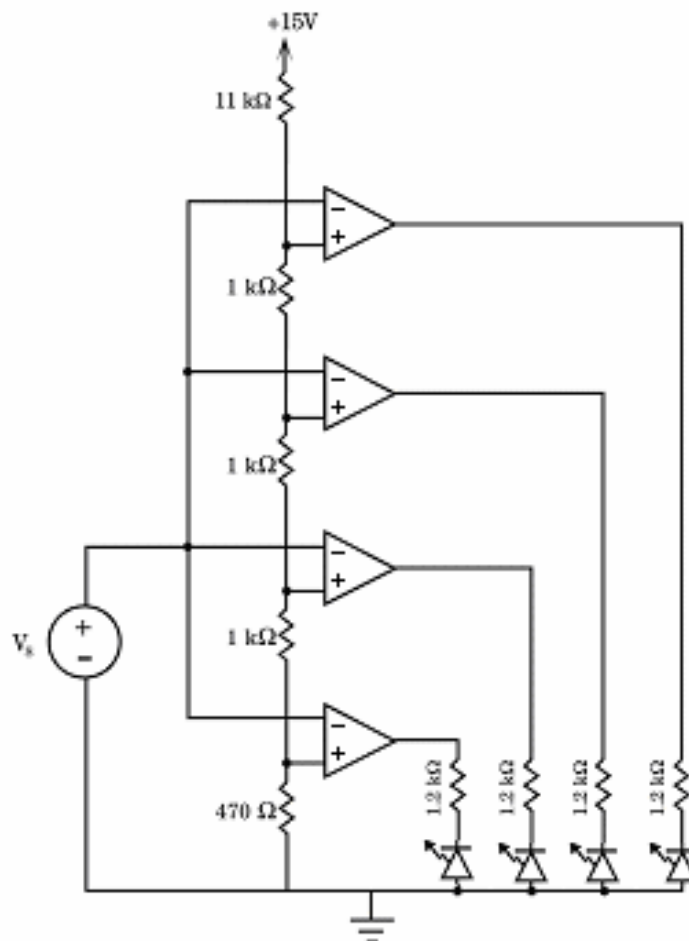
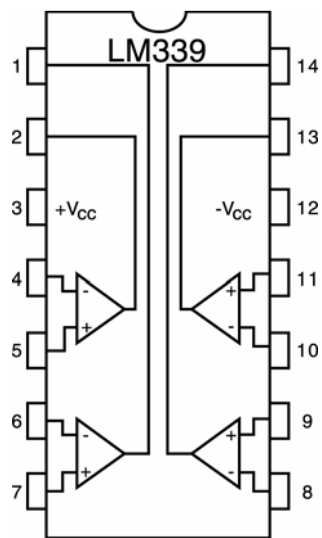

Figure 3
Figure 4
- The design of one half of the A/D converter is given in Figure 3 below. The circuit is designed such that an Octal 0 is indicated when all the LEDs are off. Each increment in the octal number will light an additional LED. The design consists of two LM339s, (quad comparators), with the pin-out shown in Fig. 4. You will verify the design by constructing the first half of her circuit as shown in Fig. 3. Conduct a system test by connecting your D/A converter from Part 1 to the A/D converter of Part 2 to ensure the entire system works.